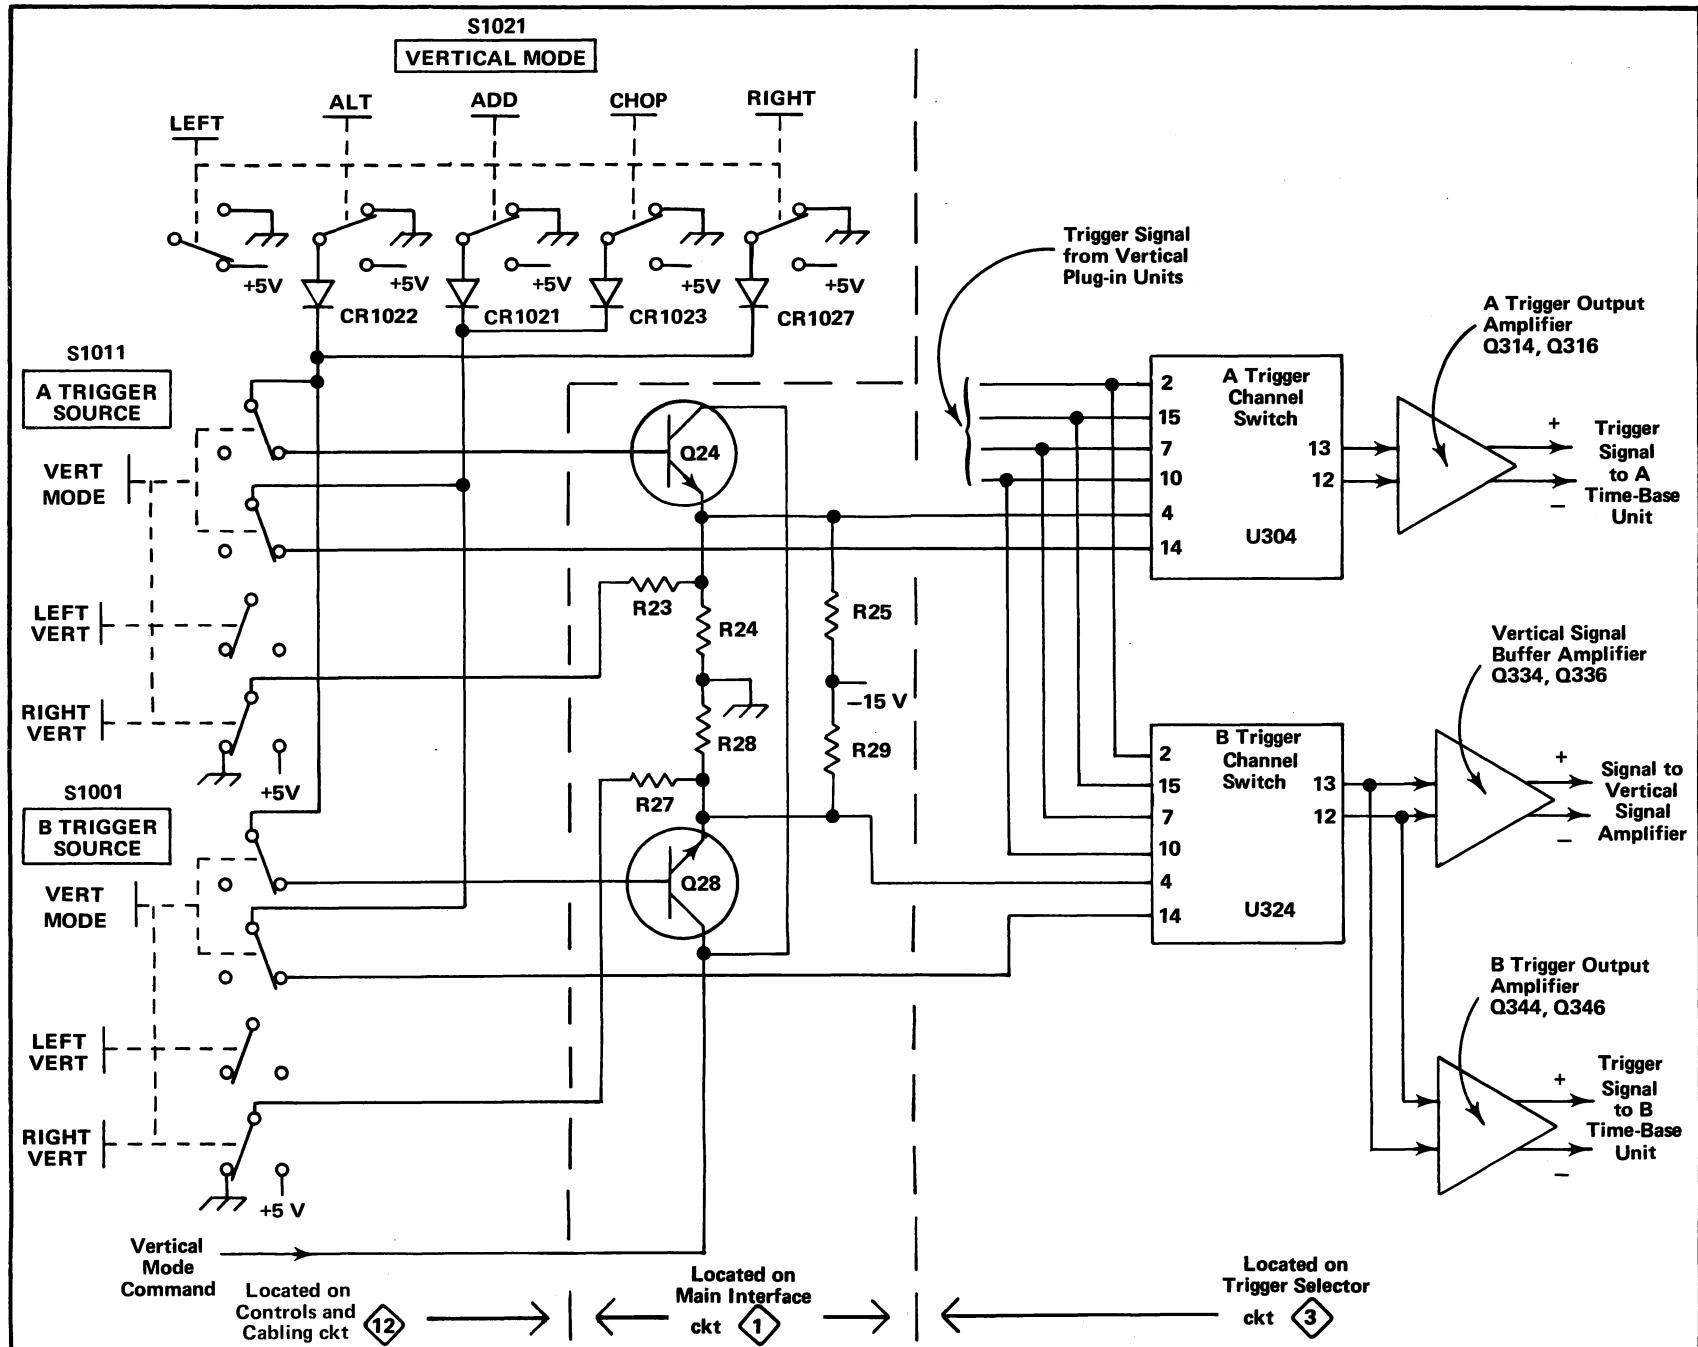

Fig. 3-21. Simplified schematic of trigger selector circuitry.
The Trigger Selector circuit determines the trigger signal which is connected to the A and B Time-Base units as controlled by the A TRIGGER SOURCE and B TRIGGER SOURCE switches. This circuit also provides the drive signal for the Vertical Signal Amplifier circuit as controlled by the B TRIGGER SOURCE switch. Fig. 3-21 shows a detailed block diagram of the Trigger Selector circuit along with a simplified diagram of all the circuitry involved in selection of the trigger source. A schematic of the Trigger Selector circuit is shown on diagram 3 at the rear of this manual. Also see diagrams 1 and 12 for the trigger selection circuitry not shown on diagram 3.
**General.** The circuitry shown on the left side of the simplified diagram in Fig. 3-21 determines the operation of the A and B Trigger Channel Switch stages. The A TRIGGER SOURCE switch S1011 controls the A Trigger Channel Switch U304 through Q24; the B TRIGGER SOURCE switch S1001 controls the B Trigger Channel Switch U324 through Q28. When the front-panel A or B TRIGGER SOURCE switches are set to the VERT MODE positions, the setting of the VERTICAL MODE switch determines the trigger selection. In the LEFT VERT or RIGHT VERT positions, the trigger signal is obtained from the indicated vertical unit. The following discussions give detailed operation in each position of the A and B TRIGGER SOURCE switches. It is written assuming that both of these switches are set to the same position. However, the A and B TRIGGER SOURCE switches operate independently to control the operation of the A and B Trigger Channel Switch stages respectively, to select the trigger output signal for the associated time-base unit.